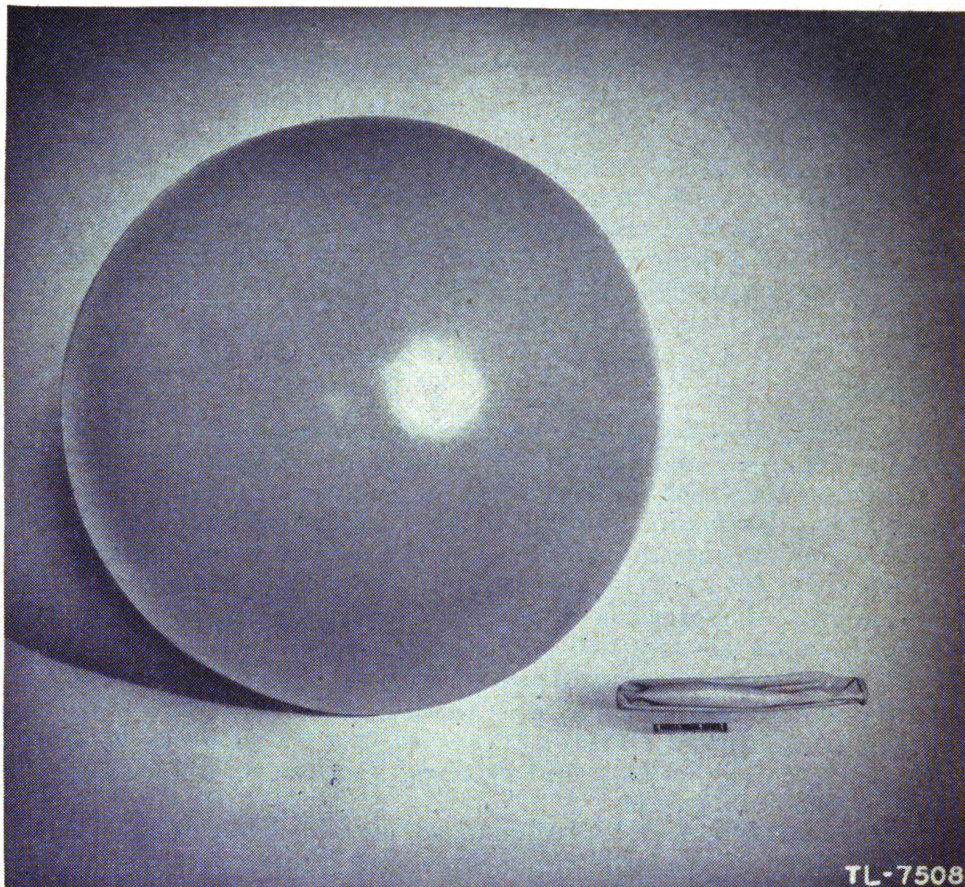

FIGURE 1. *Thirty-gram pilot balloon, inflated and deflated.*
(1) The smaller pilot balloons (fig. 1) are approximately 6 inches in diameter before inflation and weigh about 30 grams (1.06 ounces). The balloon neck is about 2½ inches long and 1½ inches in diameter. The balloon is of one-piece seamless construction. Thirty-gram pilot balloons are inflated to ascend at a constant rate of about 200 yards per minute (par. 16*b*) and are used for low-level observation (up to 30,000 feet). They are supplied in the following colors: white or uncolored, a dark color (black, dark blue, or purple), red, orange, and yellow to contrast with the condition of the sky at the time of observation (par. 4).
(2) The larger pilot balloons are approximately 16 inches in diameter before inflation and weigh about 100 grams (3.53 ounces). The balloon neck is made of relatively thick rubber, is about 2½ inches long, and is 7/16 inch to 1½ inches in diameter. Pilot balloons